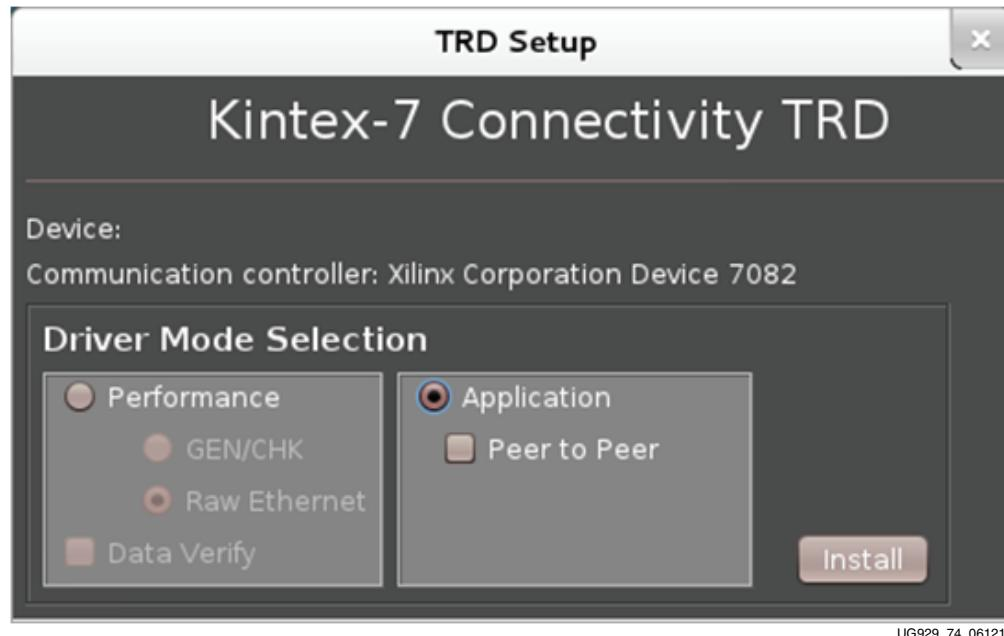

Figure 2-14: Application Mode Driver Installation
13. Select the Application mode driver as shown in Figure 2-14. For using peer-peer option refer to Appendix C, Software Application and Network Performance. Click **Install**.